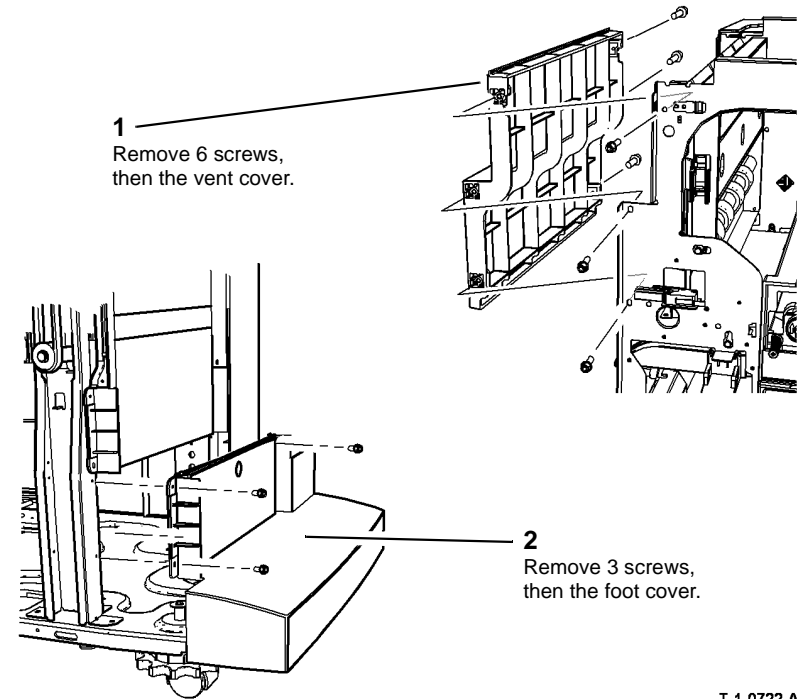

Figure 5 Vent and foot covers removal
- Remove the vent cover and foot cover, Figure 5. To provide enough room to remove the vent cover, undock the HVF, REP 11.13-171.